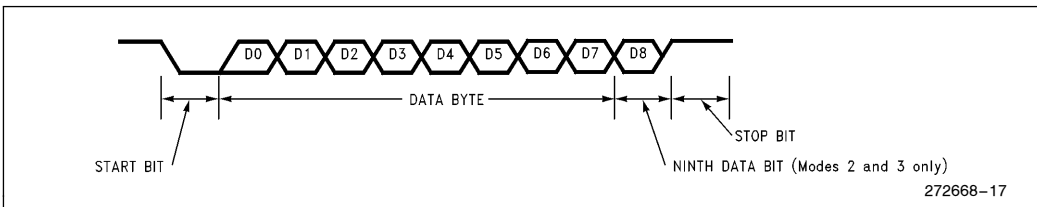

Figure 17. Data Frame: Modes 1, 2 and 3
**Mode 1:** 10 bits are transmitted (through TXD) or received (through RXD): a start bit (0), 8 data bits (LSB first), and a stop bit (1). On receive, the stop bit goes into RB8 in Special Function Register SCON. The baud rate is variable.
**Mode 2:** 11 bits are transmitted (through TXD) or received (through RXD): a start bit (0), 8 data bits (LSB first), a programmable 9th data bit, and a stop bit (1). Refer to Figure 17. On Transmit, the 9th data bit (TB8 in SCON) can be assigned the value of 0 or 1. Or, for example, the parity bit (P in the PSW) could be moved into TB8. On receive, the 9th data bit goes into RB8 in SCON, while the stop bit is ignored. (The validity of the stop bit can be checked with Framing Error Detection.) The baud rate is programmable to either 1/32 or 1/64 the oscillator frequency.